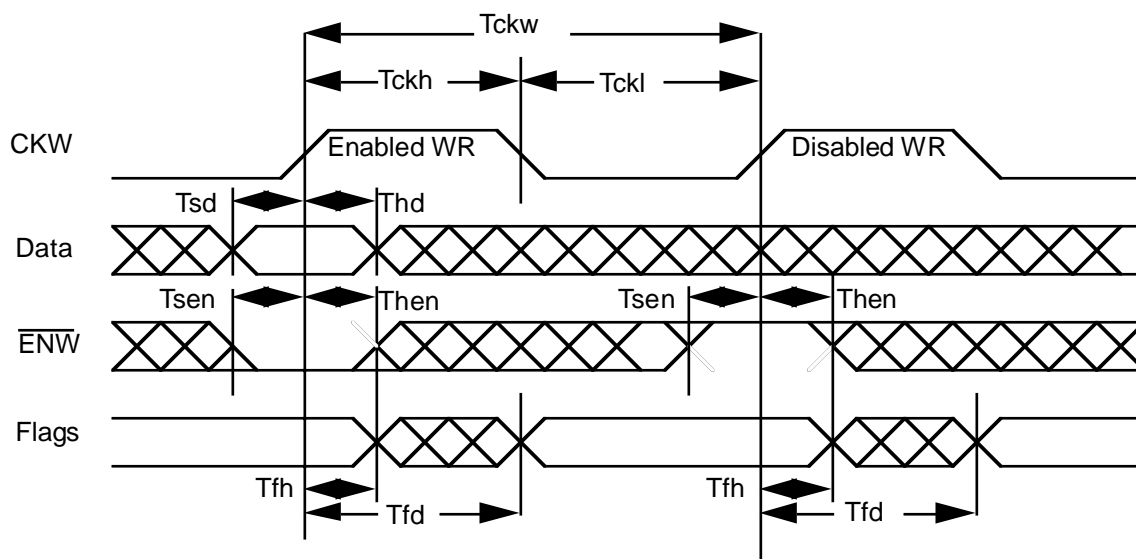

Figure 1. Write Timing
- (1) Test conditions: input switching levels $V_{IL}/V_{IH}=0.5V/V_{DD}-0.5V$ (CMOS), $V_{IL}/V_{IH}=0V/3V$ (TTL), input rise and fall times <1 ns/V, input and output timing reference levels shown in the Tester AC Timing characteristics Table, capacitive output loading $C_L=50$ pF. For $C_L > 50$ pF, derate access times by 0.02 ns/pF (typical).
- (2) Worst case operating conditions: $V_{DD}=4.5V$ to $5.5V$, $TC= -55^{\circ}C$ to $+125^{\circ}C$, post total dose at $25^{\circ}C$.
- (3) For flag updates, $tskew1$ is the minimum time an opposite clock can occur after a clock and still not be included in the current clock cycle. At less than $tskew1$, inclusion of the opposite clock is arbitrary.
- (4) For flag updates, $tskew2$ is the minimum time an opposite clock can occur before a clock and still be included in the current clock cycle. At less than $tskew2$, inclusion of the opposite clock is arbitrary.
- (5) Timing parameters are defined in Figures 1 through 6.